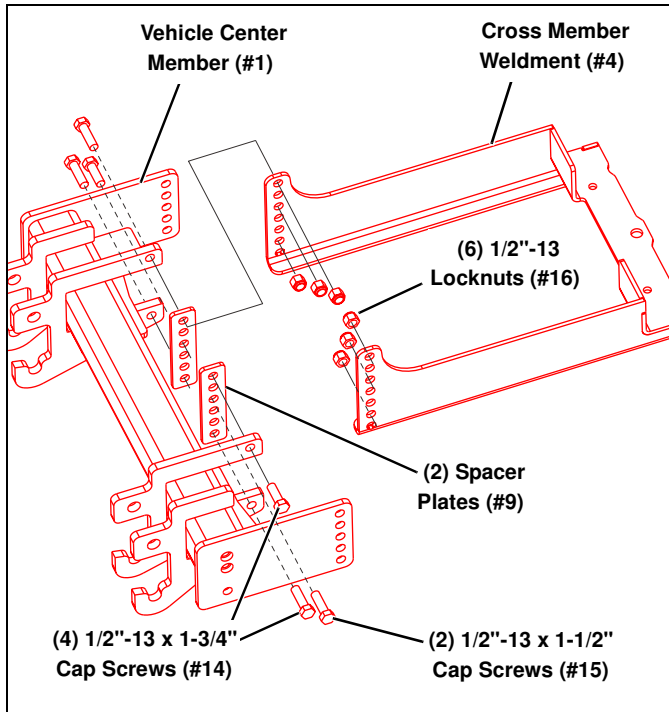

Figure 9
12. Secure the Vehicle Center Member (#1) to the Cross Member Weldment (#4) with (2) Spacer Plates (#9), (2) 1/2"-13 x 1-1/2" Cap Screws (#15), (4) 1/2"-13 x 1-3/4" Cap Screws (#14), and (6) 1/2"-13 Locknuts (#16). (See Figure 9.)